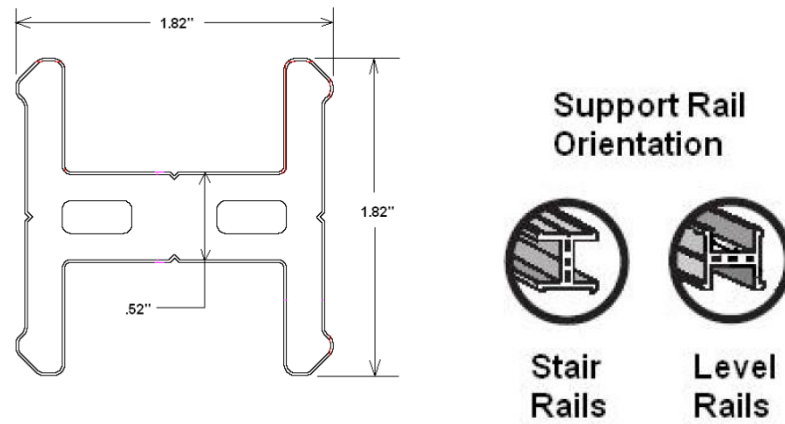

Figure 1 Support Rail
3.2.4. The top rail assembly consists of two rails; an upper rail assembled over a support rail. The two rails are held together with a series of coated screws. See Figures 1, 2, 4, 5 & 6.